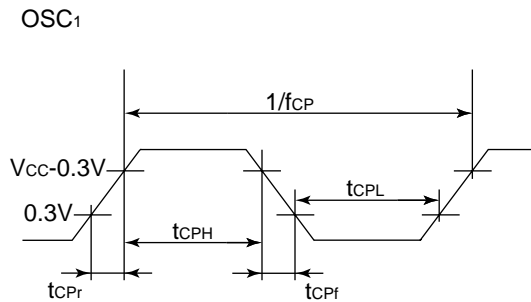

Figure 104 External Clock Input Waveform
- (1) The time required for the oscillation to settle after V_{CC} has reached min. at power-on.
- (2) The time required for the oscillation to settle after $\overline{\text{RESET}}$ input has gone low when stop mode is cleared.
3. See figure 104.